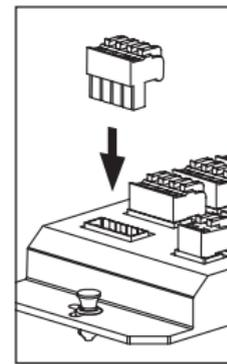

Figure 4
er phasing, the connector plug is keyed. Insert the smooth side of the connector plug into the smooth side of the socket. Don't force the scalloped side of the connector plug into the smooth side of the socket. See **Figure 4**.
7. Plug the connectors into the MVC HUB4 as shown in **Figure 4**. The single four-position connector plug at lower right is the speaker-wire input from the amplifier or receiver. The other four-position connector plugs are the speaker-wire outputs, each leading to a specific volume control. The two-position connector plugs are the 12V power outputs, each leading to a specific volume control.